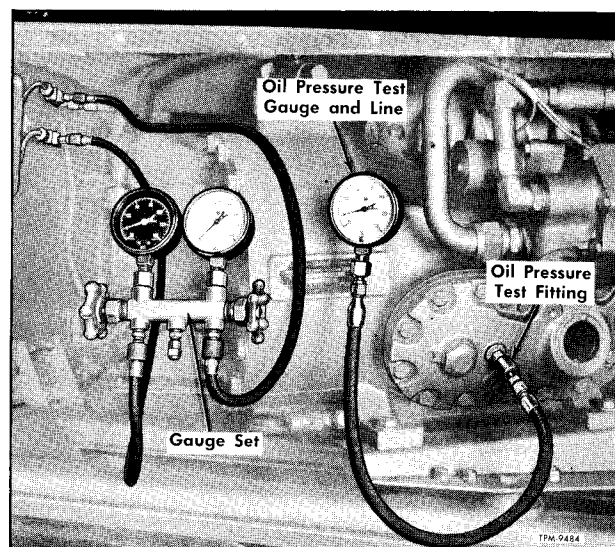

Figure 131—Checking Compressor Oil Pump Pressure
1. Connect refrigerant pressure gauge set to low pressure gauge service fitting (fig. 131). See figure 124 which identifies fittings on the different models.